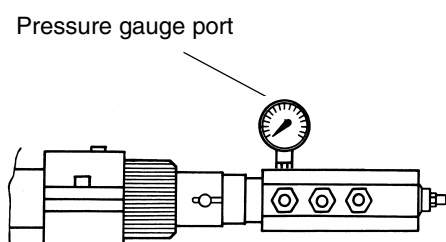

Fig. 14
- 10 the nozzle supply pressure is already factory-set and must not be changed. Only if necessary, adjust the supply pressure as follows (see related paragraph); insert a pressure gauge into the port shown on Fig. 14 and act on the pump adjusting screw **VR** (see Fig. 13) as to get the nozzle pressure at 25bar (Fluidics/Bergonzo nozzles - see diagram on page 20-22).